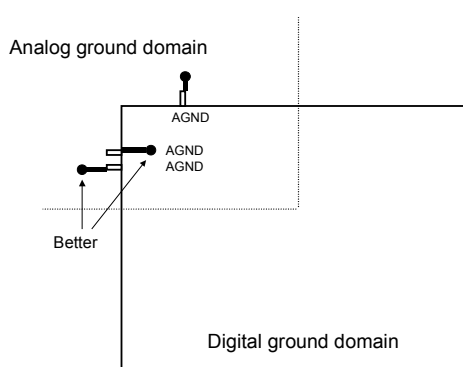
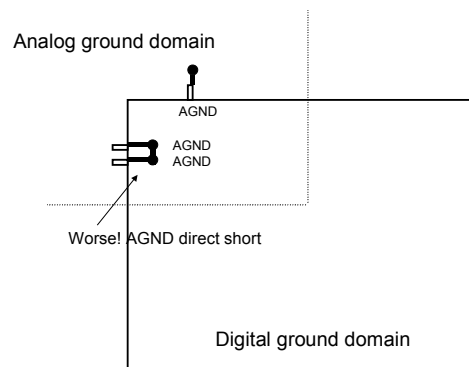

Figure 3-2
Figure 3-3
- All AGND pins (pin 25, 31, 32, 76) could not directly short each other (see Figure 3-3). It must be directly connected to analog ground domain (see Figure 3-2).